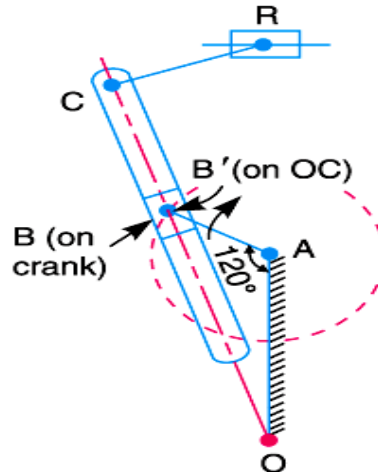

Fig: 6
- 6 a) Fig: 6 shows the mechanism of a quick return motion of the crank and slotted lever type shaping machine. The dimensions of the various links are as follows: $OA = 200$ mm; $AB = 100$ mm; $OC = 400$ mm; and $CR = 150$ mm. The driving crank AB makes 120° with the vertical and rotates at 60 r.p.m. in the clockwise direction. Find: i) velocity of ram R , and ii) angular velocity of the slotted link OC . [8M]